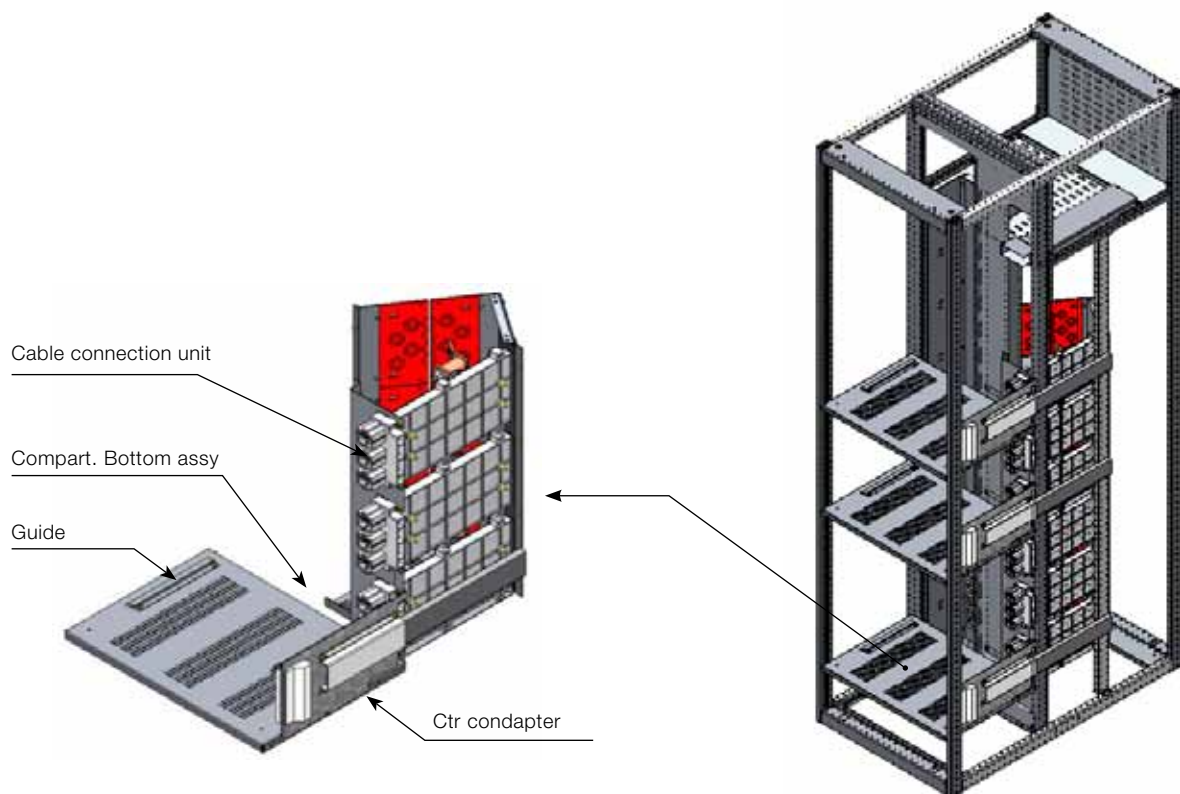

Fig. 12 Plug-In compartment for units size 6E ... 24E
- rear plug-in compartment (see fig. 12)
Rear plug-in compartments size 6E ... 24E consist of (see fig. 12):